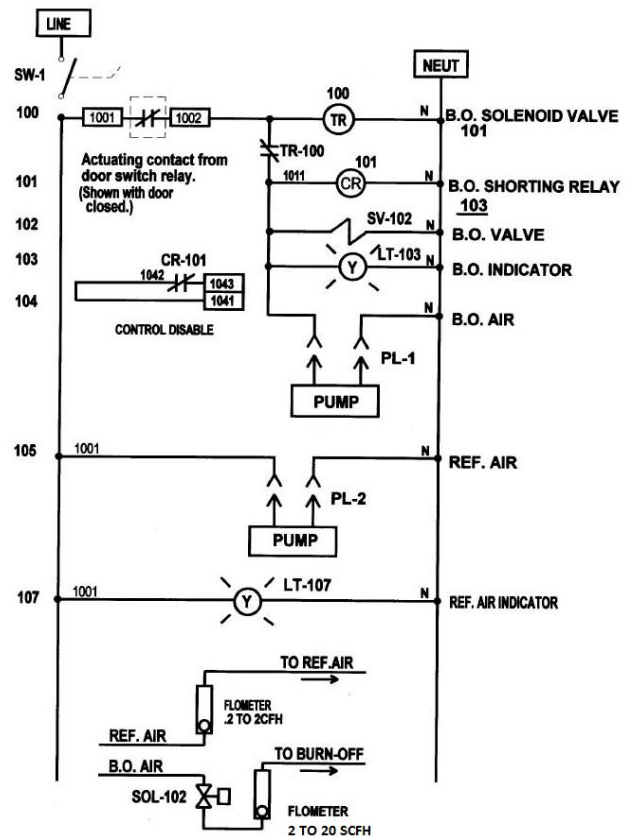

Fig. 6
If you already have a control system for your carbon sensor, you have been provided with a reference air supply and perhaps a probe conditioning system as well (see Fig. 6). It is important to emphasize that the reference air be *clean and dry*. Any combustibles or moisture in the reference air will cause the sensor to read low, resulting in over-carburization. **Avoid the use of lubricated plant compressed air.** Air connection at the sensor should be silicone rubber tubing to avoid problems related to the high temperatures normally encountered at the sensor connection block. It is recommended that SSi filter P/N 31033 or equivalent be used with the Gold Probe. This will provide 93% efficiency against 0.01 micron particles for the air reference supply and help avoid contamination of the internal airway and electrode.
**Probe conditioning:** While periodic furnace burnout is desirable, the process by which solid carbon or 'soot' is deposited continues in the probe, and must be remedied more frequently to keep the probe in peak operating condition. SSi technical staff has pioneered in techniques to achieve this. Soot deposition occurs in two critical locations; the annular space between the sheath and the measuring surface and at the measuring junction between the zirconia and the contact point with the sheath, which is the measuring electrode. The probe is burnt out by the flowing air into this space through the burnout fitting provided. The flow of air must be set at a rate that allows a temperature rise of no more than 100 degrees Fahrenheit (38 degrees Celsius). If possible the flow should be set high enough to overcome the effect of the work chamber fan and drop the output voltage well below 200 MV. Conducting this process for a 90 second period before or after each batch, or every six to twelve hours in a continuous furnace, will provide adequate conditioning in most cases. See Fig. 6.